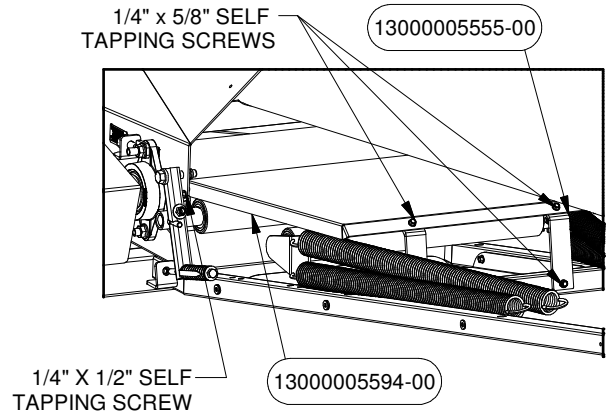

FIGURE 10
22. Attach the Top Guard PN# 5594 to the Intake using the Brackets PN# 5555 and fasten it using Self Tapping Screws that can be found in Bolt Bag PN# 5830 (see Figure 10).